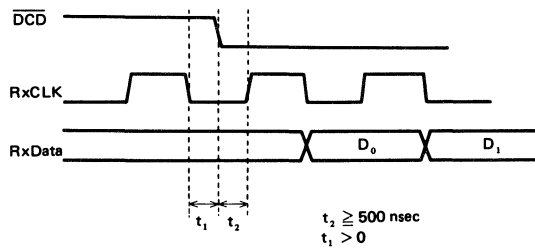

Figure 14  $\overline{DCD}$  Input Timing in External Sync Mode
- (1)  $\overline{DCD}$  and RxCLK should meet the relation shown in Fig. 14.